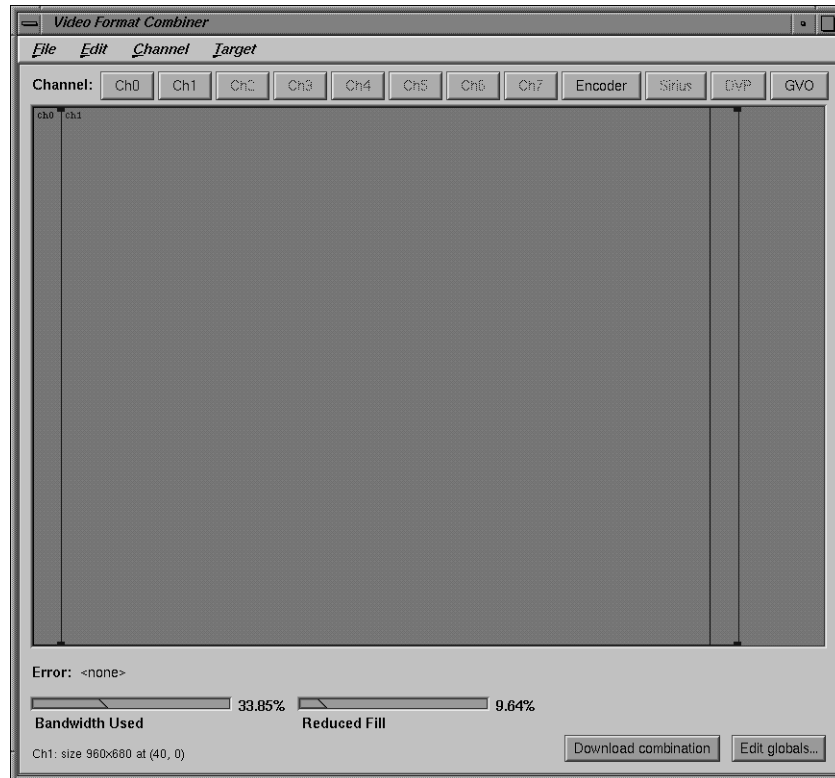

Figure A-6 Textport Error Message on the Main Window
- Find and double-click the *960x680_60.vfo* file format. An error message appears at the lower left corner of the window, as shown in Figure A-6: "Textport channel Ch0 invalid."